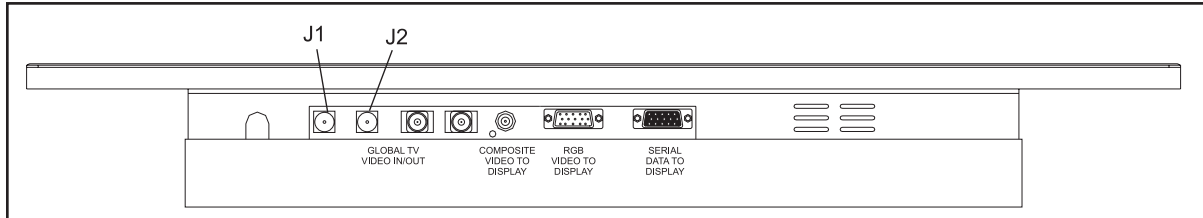

Figure 5. Install Terminator
1. Install a 75 ohm terminator on any one of the "global TV video IN/OUT", J1 or J2 connectors for each overhead. Refer to *Figure 5*.